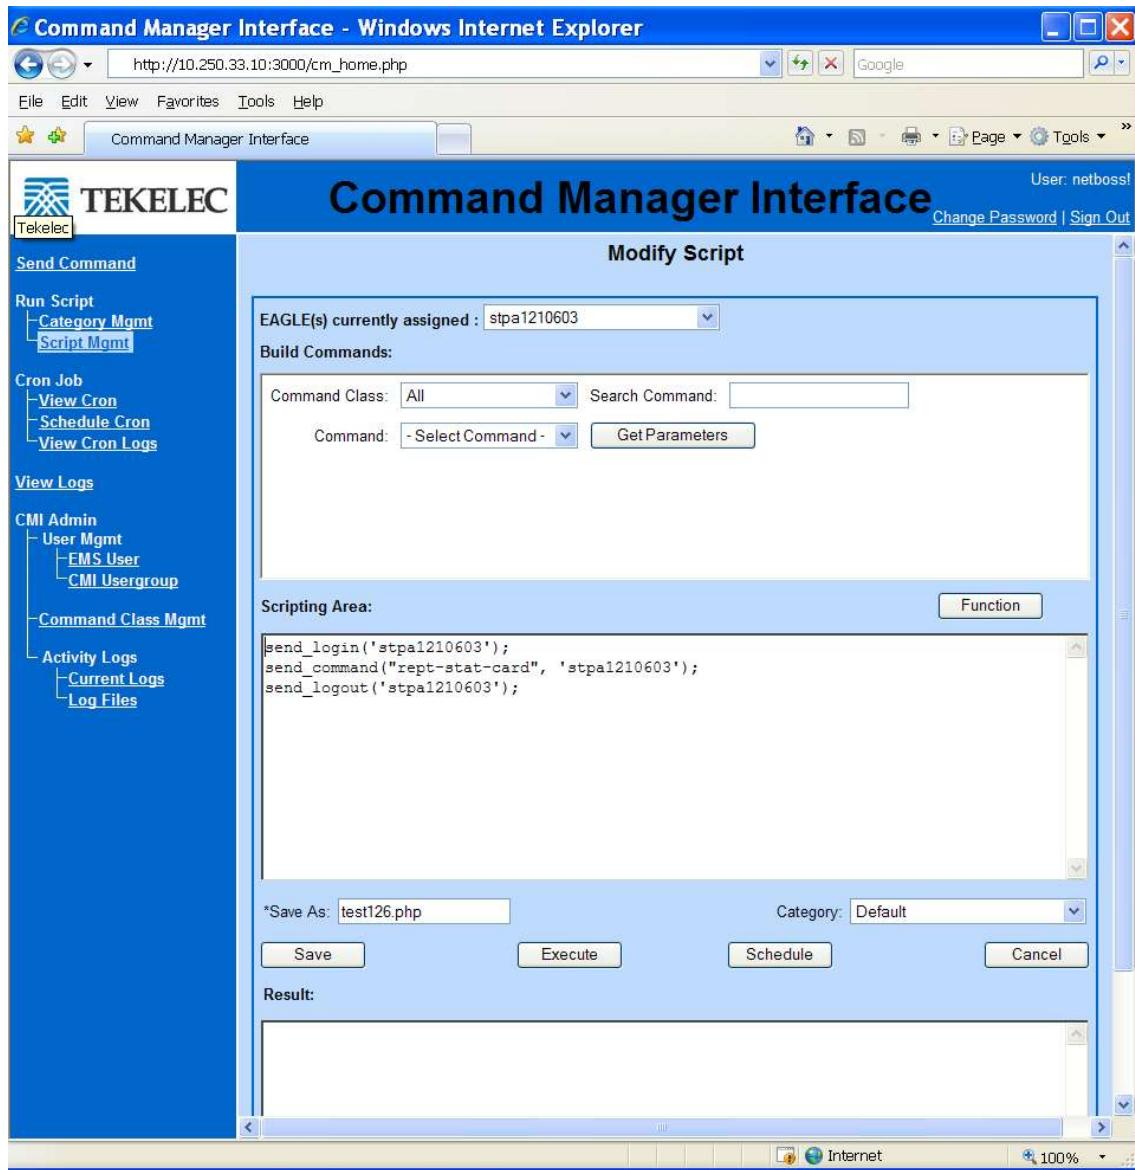

Figure 36: Modify Script Page
- Click the **Modify** link on the same row as the name of the CMI command script to be edited. A page similar to that which appears in *Figure 36: Modify Script Page* appears.